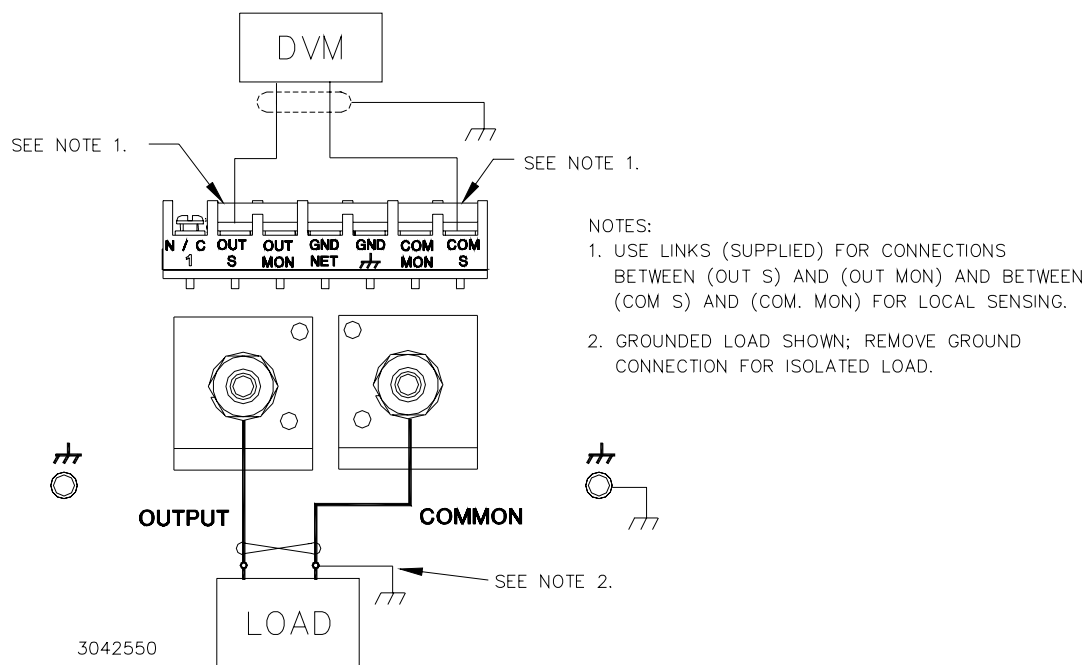

FIGURE 2-2. LOAD CONNECTIONS, LOCAL SENSING
2. IF LOCAL SENSING IS USED, INSTALL LINKS (see Figure 2-2).
Figure 2-2 shows a typical configuration using local sensing and a grounded load; for local sensing with an isolated (“floating”) load, do not install the ground connection (see Figure 2-2, Note 2).